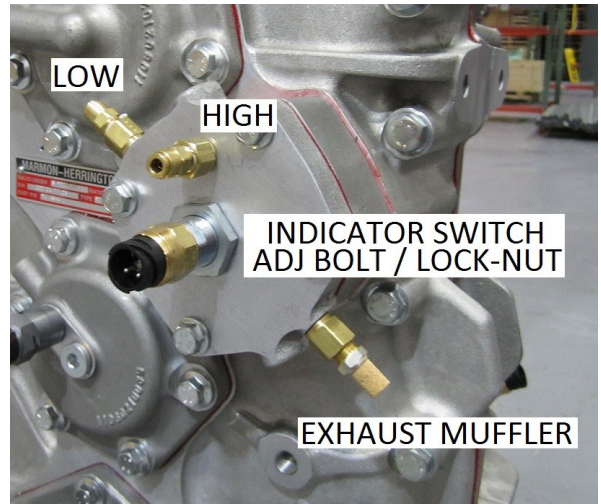

Figure 105
3.1.1 Refer to Fig. 105 for the following adjustments.